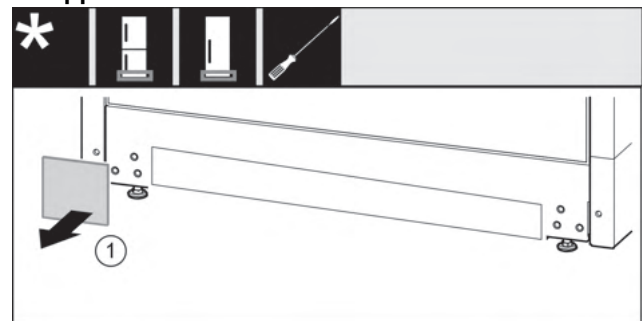

Fig. 34
- ▶ Remove the cover Fig. 34 (1).